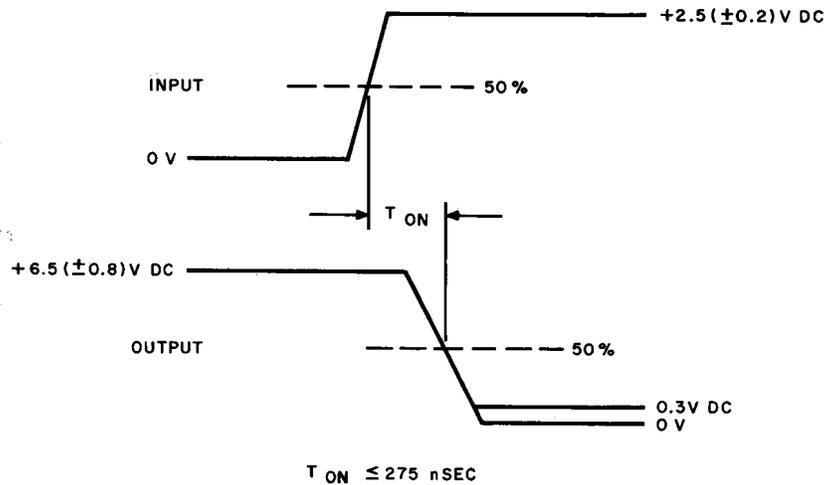

Fig. 2A — NOR Gate Test
- (5) Set the EXT SYNC TRIGGER to the (+) positive position.
- (6) Rotate the GATE selector through positions 1 to 10. At each position, the input and output steps shall be as specified in Fig. 2A.
- (7) Set the TEST FUNCTION selector to position 2. Rotate the GATE selector through positions 1 to 8. Observe output as in (6). Time base measurements need not be made.
- (8) Set the TEST FUNCTION selector to position 3. Rotate the GATE selector through positions 1 to 6. Observe output as in (6). Time base measurements need not be made.
- (9) Set the TEST FUNCTION selector to position 4. Rotate the GATE selector through position 1 to 2. Observe output as in (6).